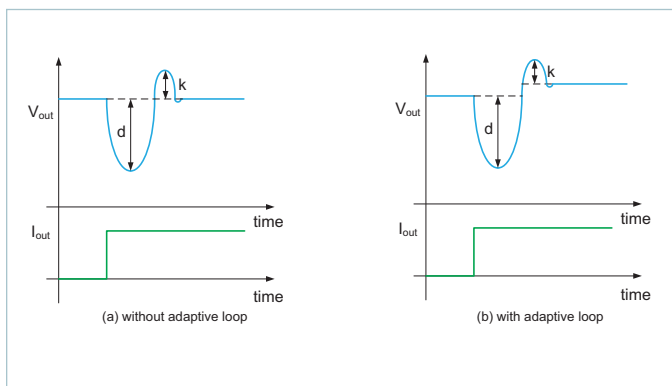

Figure 40 — Load step response example and "droop" vs. "kick"
Figure 40 illustrates an example of a load step response. Equation (11) can be used to predict the phase margin based on the ratio of the "kick" to "droop" (as defined in Fig. 38).